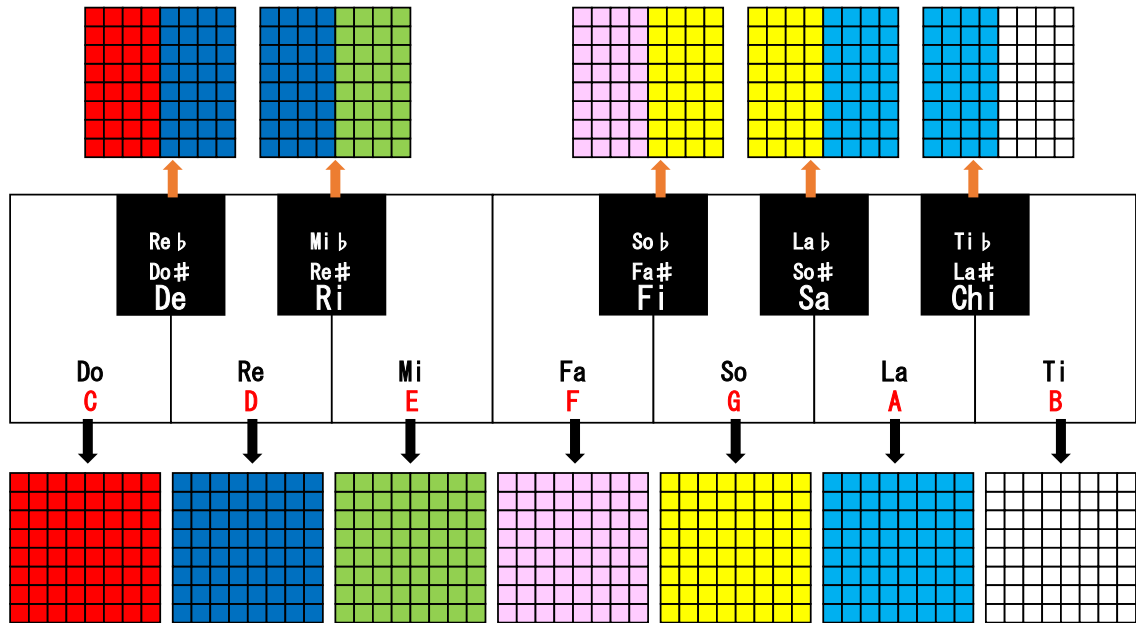

Figure 1-6 Display Color of Each Note (Specific MIDI Channel Display Mode)
(2) LED matrix display during melody display (specific MIDI channel display mode)
- Colors are assigned to each note (do, re, mi, fa, so, la, ti) as shown in Figure 1-6. As an example, for piano, the received keystroke messages are shown in a single color for the white keys and in two colors for the black keys.